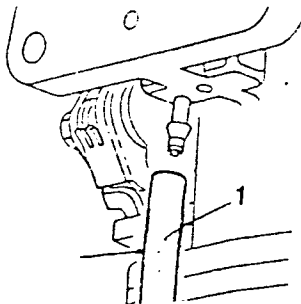

Fig B4.63
- (6) Refer to Fig B4.63. Disconnect the ignition vacuum pipe (1) from the manifold.
(15) Connect the ignition vacuum pipe to the manifold (Fig B4.63).